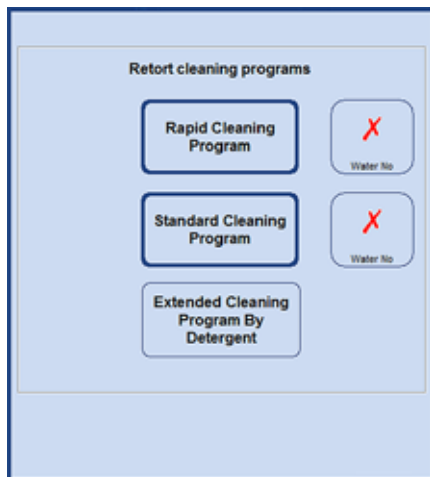

Fig. 220
- To select the water step, press the **WATER YES/NO** button so that a green check mark appears (Fig. 218/219). The water step is always carried out as the third step in the cleaning program, that is to say it is not run in addition to the cleaning program shown in Fig. 220.